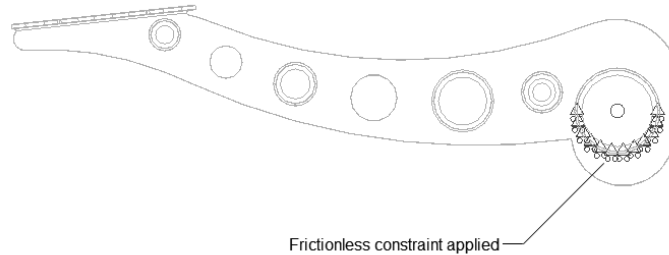

Figure 8-88 The frictionless constraint applied on the surface
- Choose the **OK** button from the **Creating Frictionless Constraint Object** dialog box; the frictionless constraint is applied to the selected surface of the model, refer to Figure 8-88.
*In Figure 8-88, the visual style of the model has been changed to edges visual style for clarity. You can do so choosing the **Edges** tool from the **Visual Style** drop-down of the **Appearance** panel of the **View** tab in the **Ribbon**.*